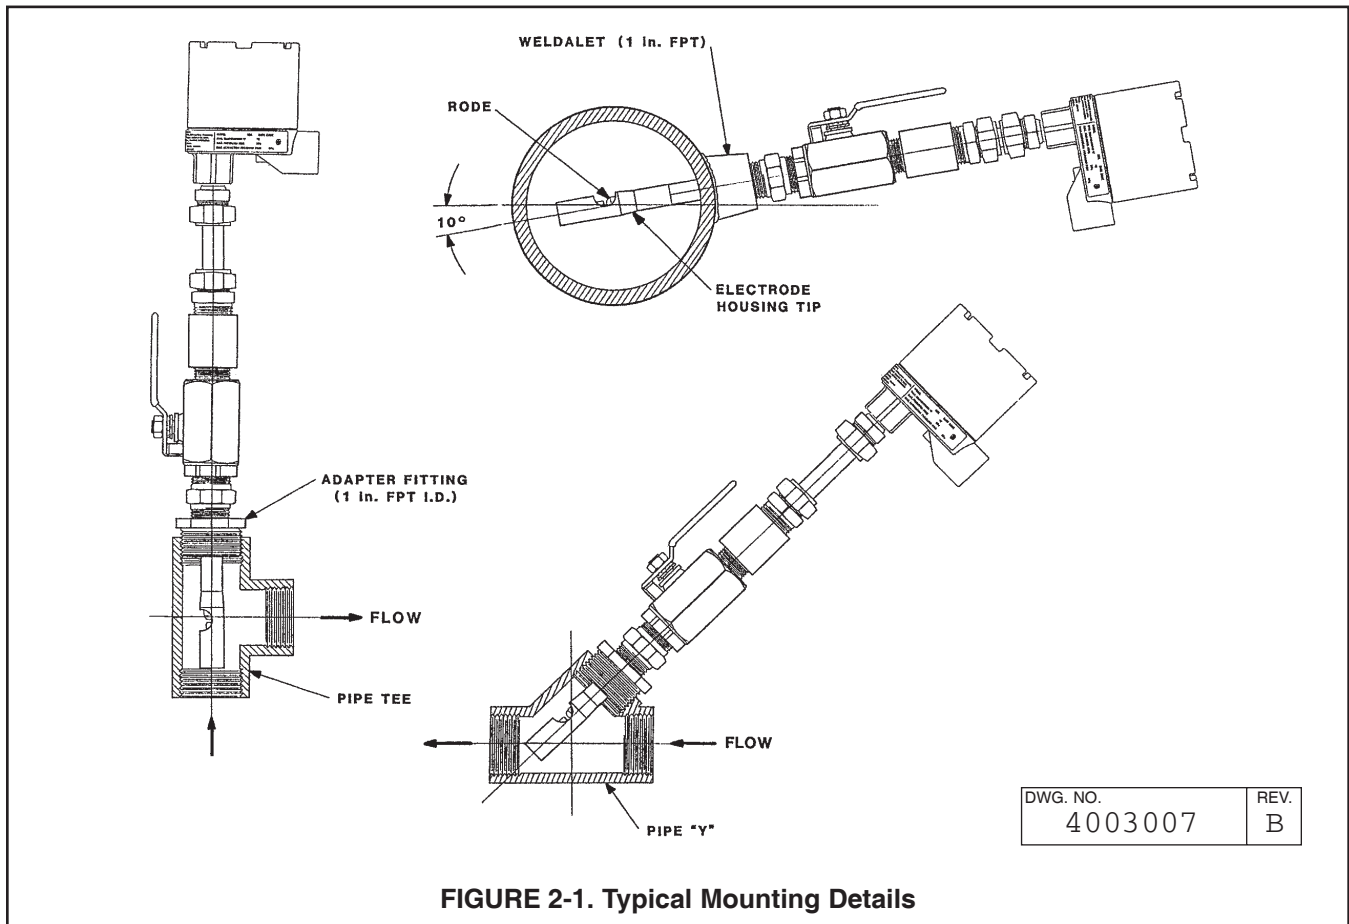

FIGURE 2-1. Typical Mounting Details
2.1 MECHANICAL INSTALLATION. The Rosemount Analytical Model 300 Sensor Assembly may be installed through a one-inch weldolet or in a pipe tee or "Y" as shown in Figure 2-1. Insert to a depth sufficient to ensure that the glass bulb is continuously wetted by the process fluid. When the sensor is to be installed in a weldolet, the angle must be within 10 degrees off horizontal (see Figure 2-1) with the electrode tip pointing downward, to keep air bubbles from settling at the pH sensitive glass bulb. If bubbles are allowed to settle at the glass bulb, electrical continuity between the pH sensitive glass and the reference element will be disrupted.